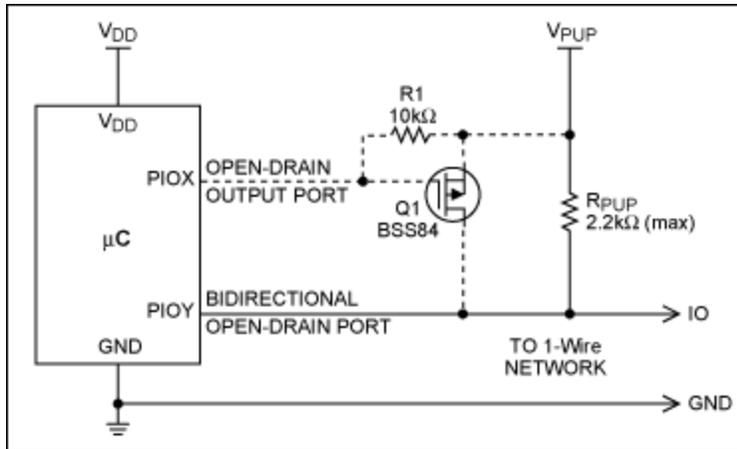
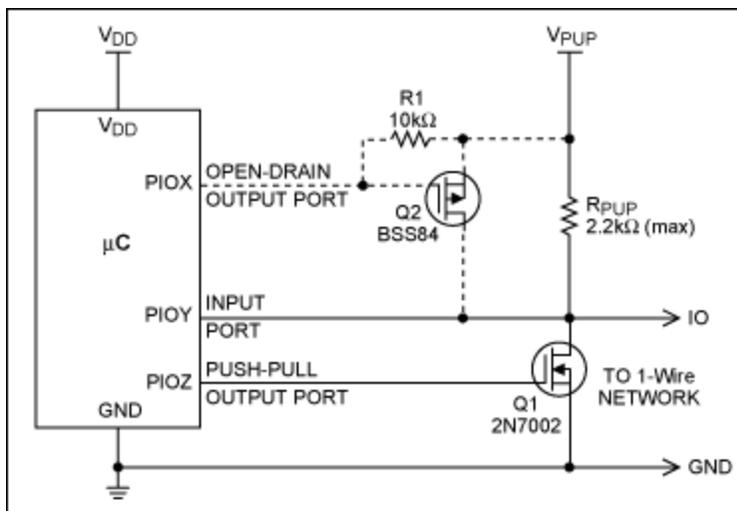
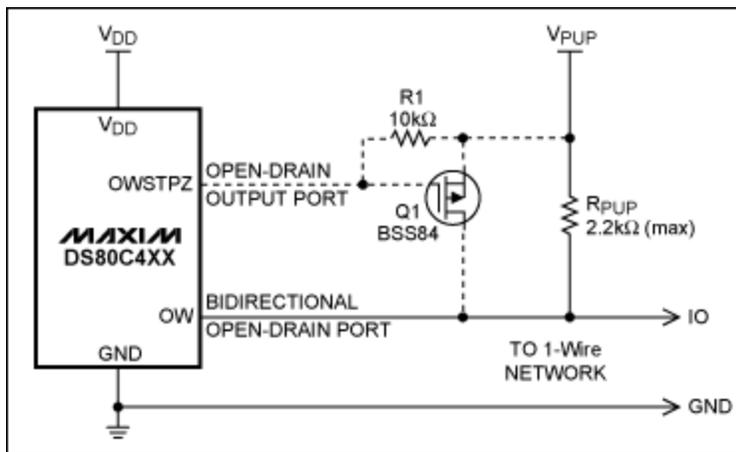
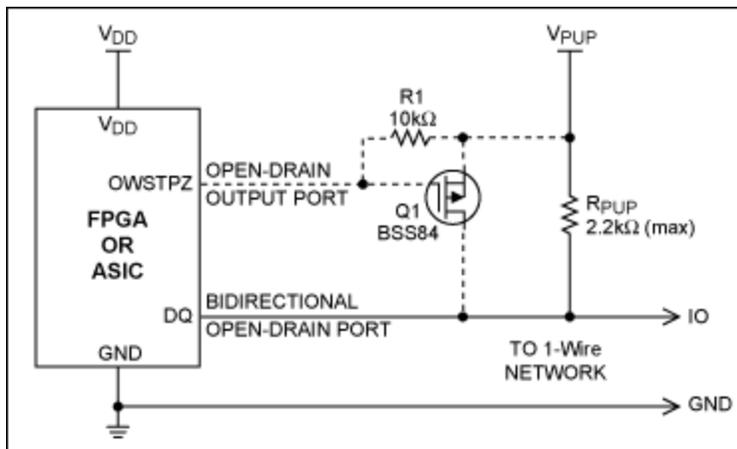

Figure 1. Bidirectional port pin with optional circuit for strong pullup (dashed lines).
Figure 2. Unidirectional port pins with optional circuit for strong pullup (dashed lines).
Figure 3. Microcontroller with built-in 1-Wire master and optional circuit for strong pullup (dashed lines).
Figure 4. ASIC/FPGA with optional circuit for strong pullup (dashed lines).
**Figure 1** shows the most basic implementation of a 1-Wire master.
Figure 2 shows another basic circuit similar to Figure 1.
The circuit in **Figure 3** is very similar to that in Figure 1. The difference is in the type of microcontroller.
The circuit in **Figure 4** is very similar to that in Figure 3. The difference is that the microcontroller and 1-Wire port are embedded in an ASIC or FPGA.
As the main prerequisite, this circuit requires a way to control a UART, such as a microcontroller, FPGA, or PC serial port, and some spare space in the program memory. The upside of this circuit is that the 1-Wire timing is generated by hardware, which can reduce the initial software development time and cost. Consequently, the entire application software can be written in high-level language. Through control registers, the 1-Wire timing can be fine-tuned. The DS2480B supports a strong pullup and active pullup. Fine-tuning of the 1-Wire timing and active pullup are not needed for embedded applications, however. The built-in 4-bit search accelerator makes the 1-Wire ROM search easier to implement in software. On the downside, the DS2480B is more costly than the discrete components shown in Figures 1 through 4. The DS2480B works with 5V only. It is the strongest single-chip 1-Wire master available—good for communicating with a large number of slave devices. The active pullup lasts until a second threshold has been crossed. The DS2480B can also program 1-Wire EPROM devices. For additional information, refer to application notes 192, "Using the DS2480B Serial 1-Wire Line Driver," 4104, "Understanding and Configuring the 1-Wire Timing of the DS2480B," and the DS2480B data sheet. The source code of application note 192 is available for download.